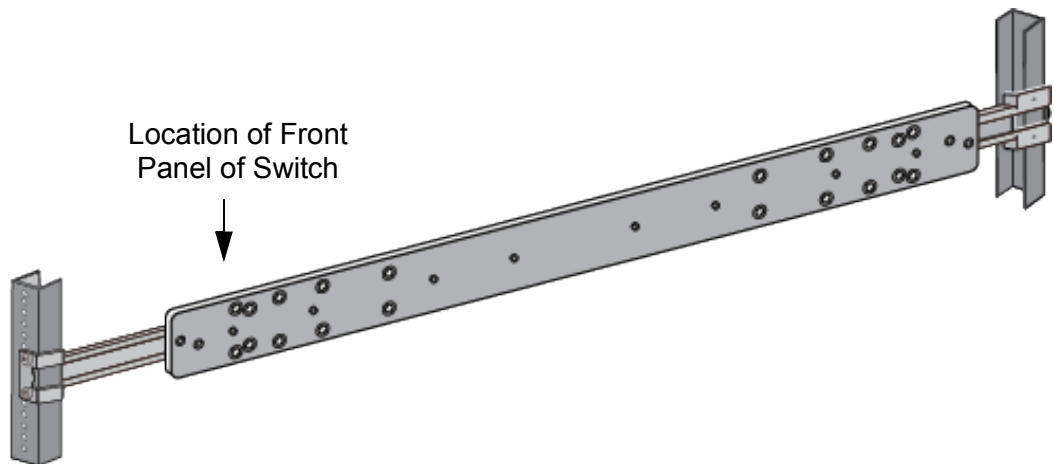

Figure 107. Example of Positioning the Inner Rail
2. Position the inner rail at the planned location for the front panel of switch in the sliding rack. Refer to Figure 107.